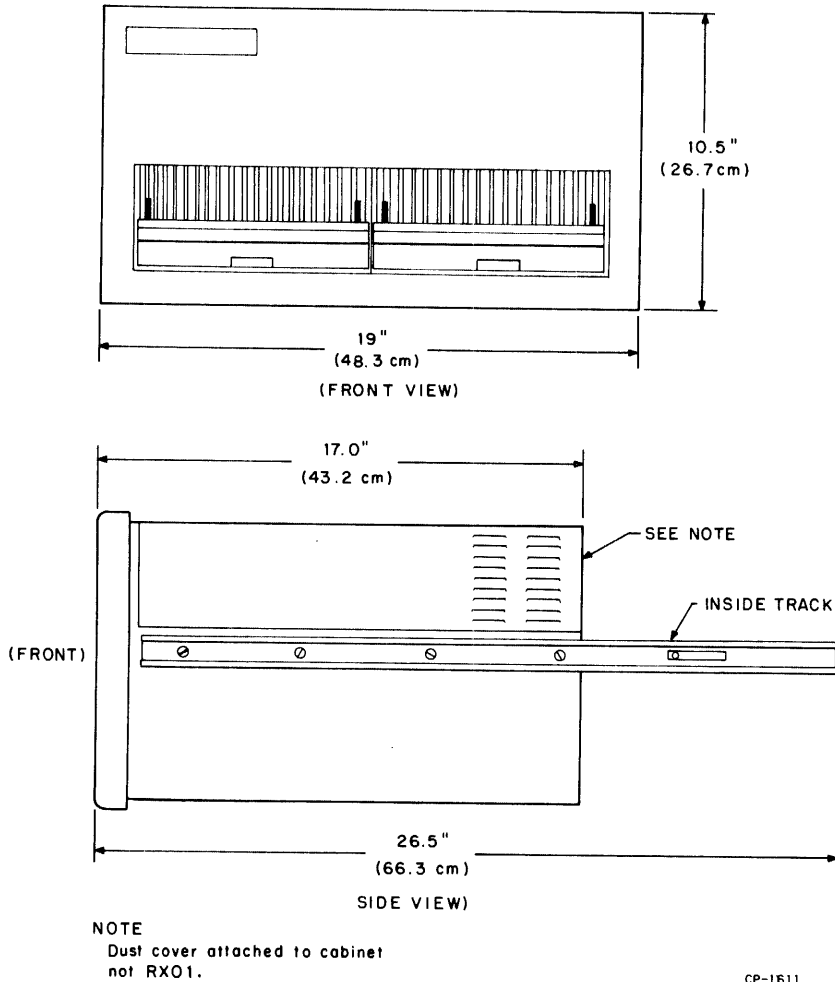

Figure 2-1 RX01
The RX01 is a cabinet-mountable unit that may be installed in a standard Digital Equipment Corporation cabinet. This rack-mountable version is approximately 10-1/2 in. (28 cm) high, 19 in. (48 cm) wide, and 16-1/2 in. (42 cm) deep (Figure 2-1).
4. Attach the inside tracks of the chassis slides provided in the carton to the RX01 (Figure 2-1).